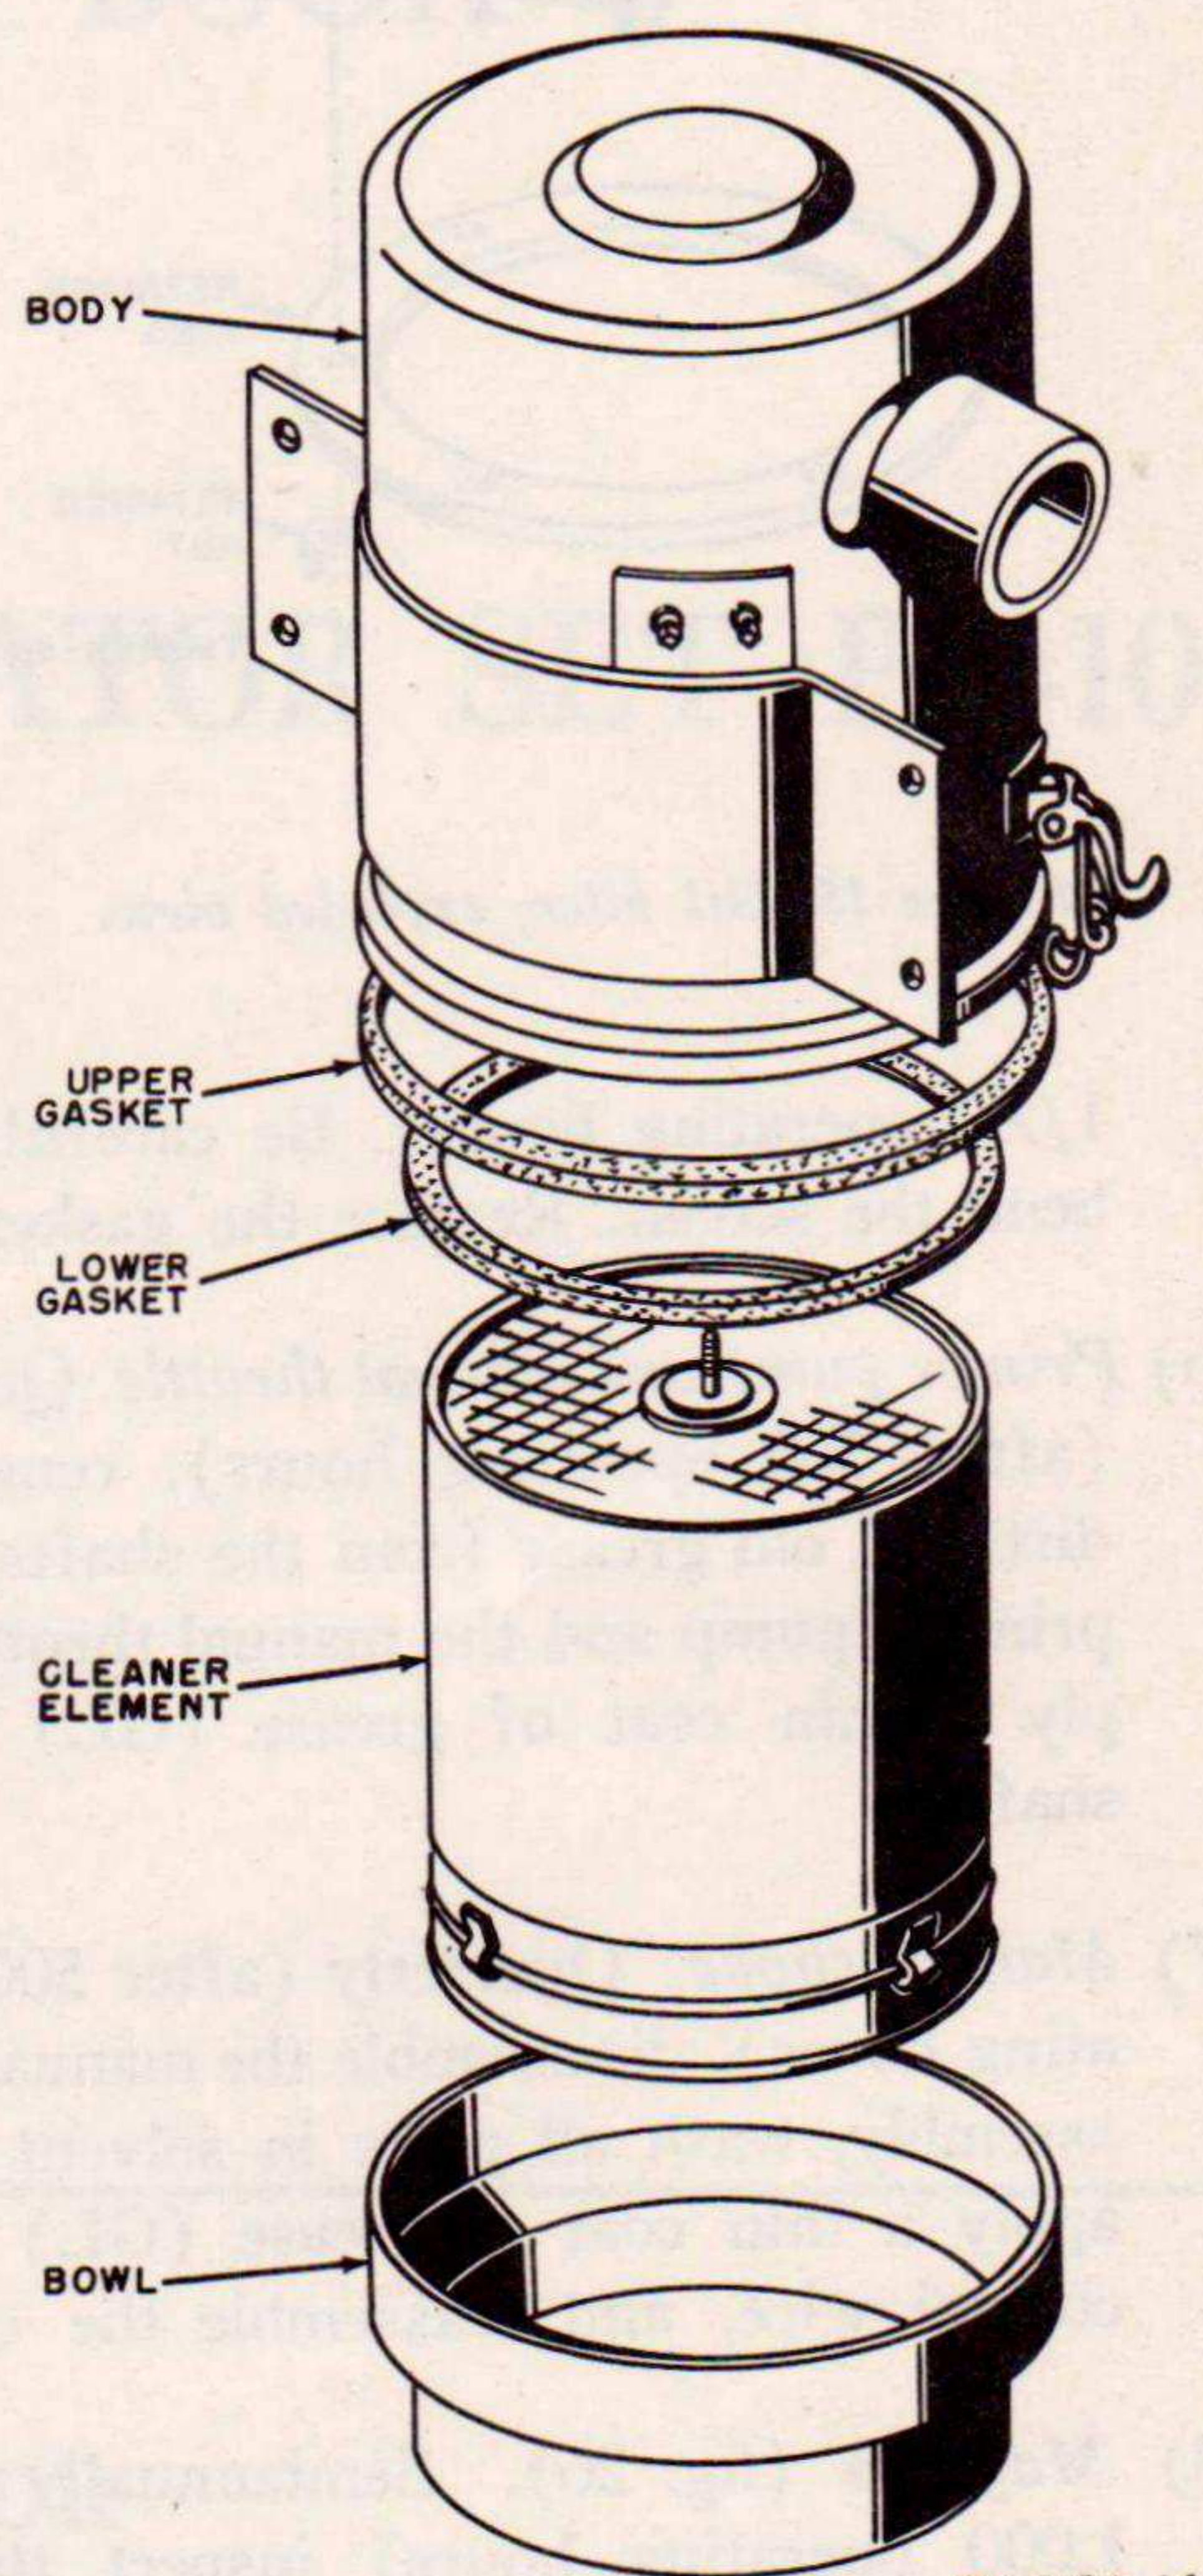

Figure 14. Air cleaner, exploded view.
*a. Air cleaner* (fig. 14). To check the quantity of oil in the air cleaner, disassemble the bowl from the body by loosening the spring clips, and see that oil is up to the caution level. Add oil as necessary. Reassemble the bowl to the body; be sure the clips are secure.
(2) *Air Cleaner* (fig. 14). Check the quantity of oil in the air cleaner bowl weekly (after 50 operating hours). If the oil is below the caution level, add oil (OE) up to the normal level of the bowl. At monthly intervals (after 250 operating hours), remove the air cleaner element and wash it in solvent (SD). At the same time, clean the air cleaner bowl and refill with engine oil (OE). To remove the element, remove the bowl and unscrew the wing screw located on the bottom of the element housing. Then pull the element out of the housing. (The wing screw does not come out of the element.)